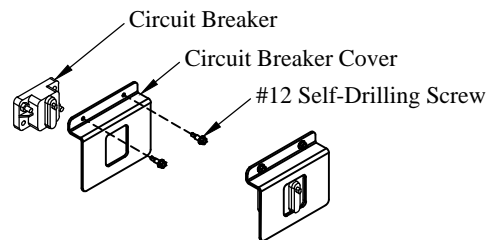

Figure 17: Circuit breaker cover.
17. **Install** the plastic circuit breaker cover over the circuit breaker using the supplied #12 self-drilling screws (Figure 17).